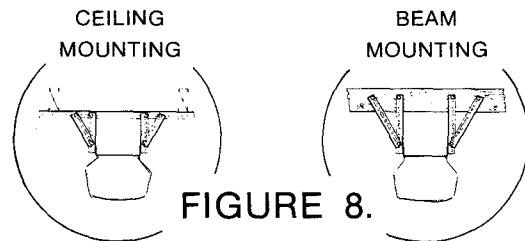

FIGURE 8.
- 7.) Using pre-punched hanger angle or other suitable material (supplied by installer), mount the operator to overhead beam or ceiling. (See Figure 8.)